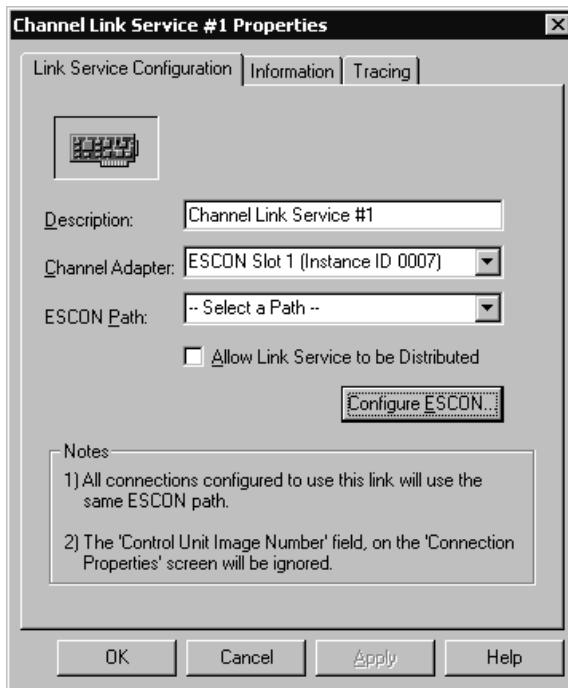

Figure 8-9. Link Service Properties
4. The Channel Link Service Properties screen displays (Figure 8-9).